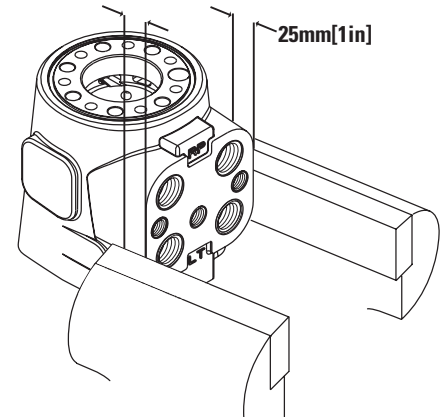

Figure 19
- Clamp housing in vice (figure 19).